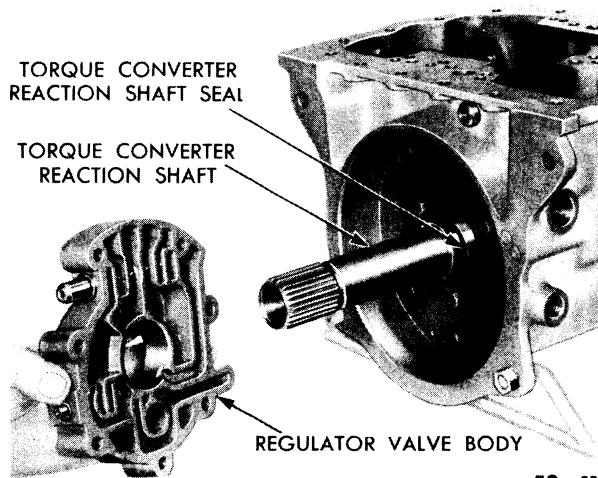

Fig. 104—Installation of Regulator Valve Body Assembly
- (1) Make sure torque converter reaction shaft seal (neoprene) is coated with MOPAR Lubriplate.
- (2) Place the transmission regulator valve and torque converter control valve in the regulator valve body.
- (3) Install guide studs, Tool C-3288, (if removed) in front of transmission case and position new regulator valve body gasket on studs and against case.
- (4) Place transmission regulator valve body assembly (with oil passages to rear, as shown in Fig. 104), over torque converter reaction shaft and seat firmly against gasket on front of transmission case.